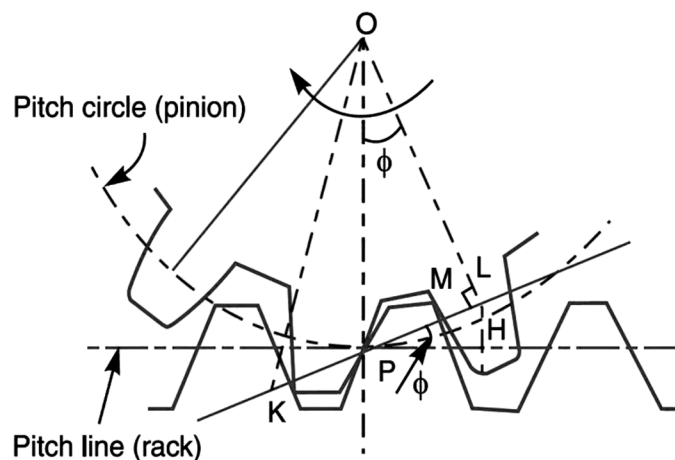

Fig. Q3 (a)
- a) **Fig. Q3 (a)** shows a rack and pinion in mesh. Letting t = Minimum number of teeth on the pinion to avoid interference, r = Pitch circle radius of the pinion = $m \cdot t / 2$, and ϕ = Pressure angle or angle of obliquity, and $A_R \cdot m$ = Addendum for rack, where is the fraction by which the standard addendum of one module for the rack is to be multiplied. Show that